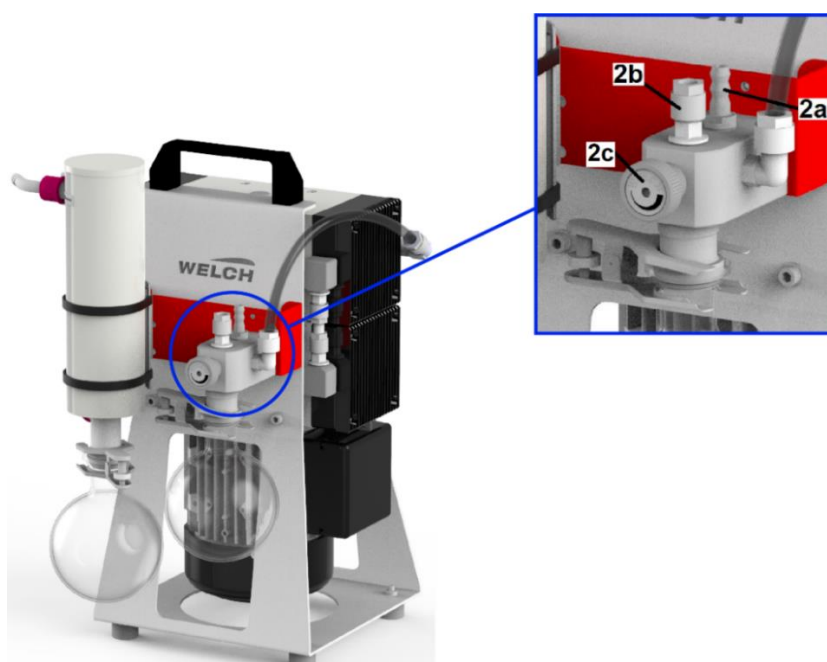

Fig. 4-3. Pneumatic inlet detail view (suction side)
1. Connect inlet (Fig. 4-3/2a or 2b)